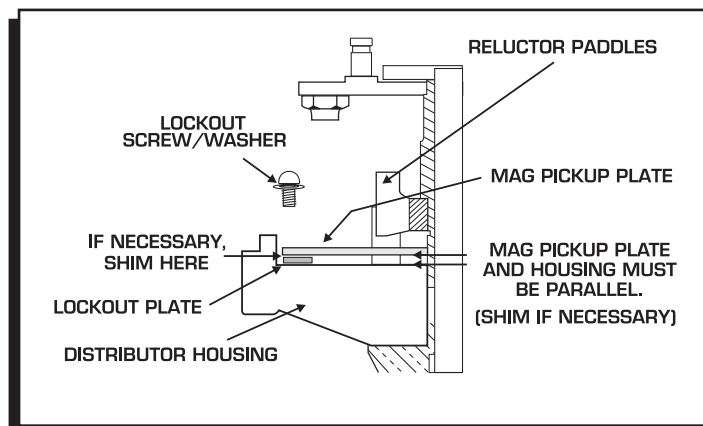

Figure 11 Checking Installation of the Lockout Plate.
6. It is important to make sure the pickup plate is parallel with the housing of the distributor (Figure 11). If it is cocked or slanted, the paddles of the retractor may contact the pickup. Check the clearance by rotating the distributor shaft. If necessary, use the supplied shims under the Lockout hold-down to correctly position the pickup plate.